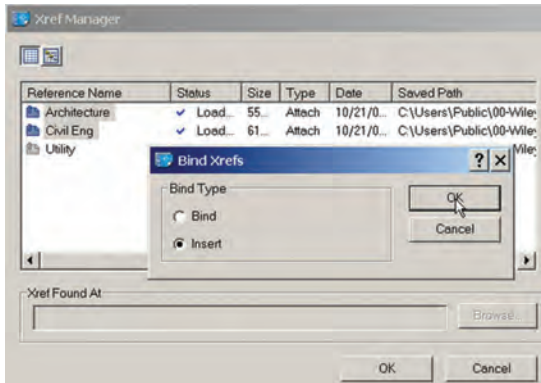

Fig. 17-9: Bind/Insert an Xref with the needed information into the CAD_SU_Base drawing.
4. Bind/Insert them to the CAD_SU_BASE. When you Bind/Insert an Xref, it will be embedded in the base file instead of being externally referenced. The bound Xref, which becomes part of the drawing and not linked as a separate file, can be edited easily. To bind an Xref (Fig. 17-9), follow these steps: